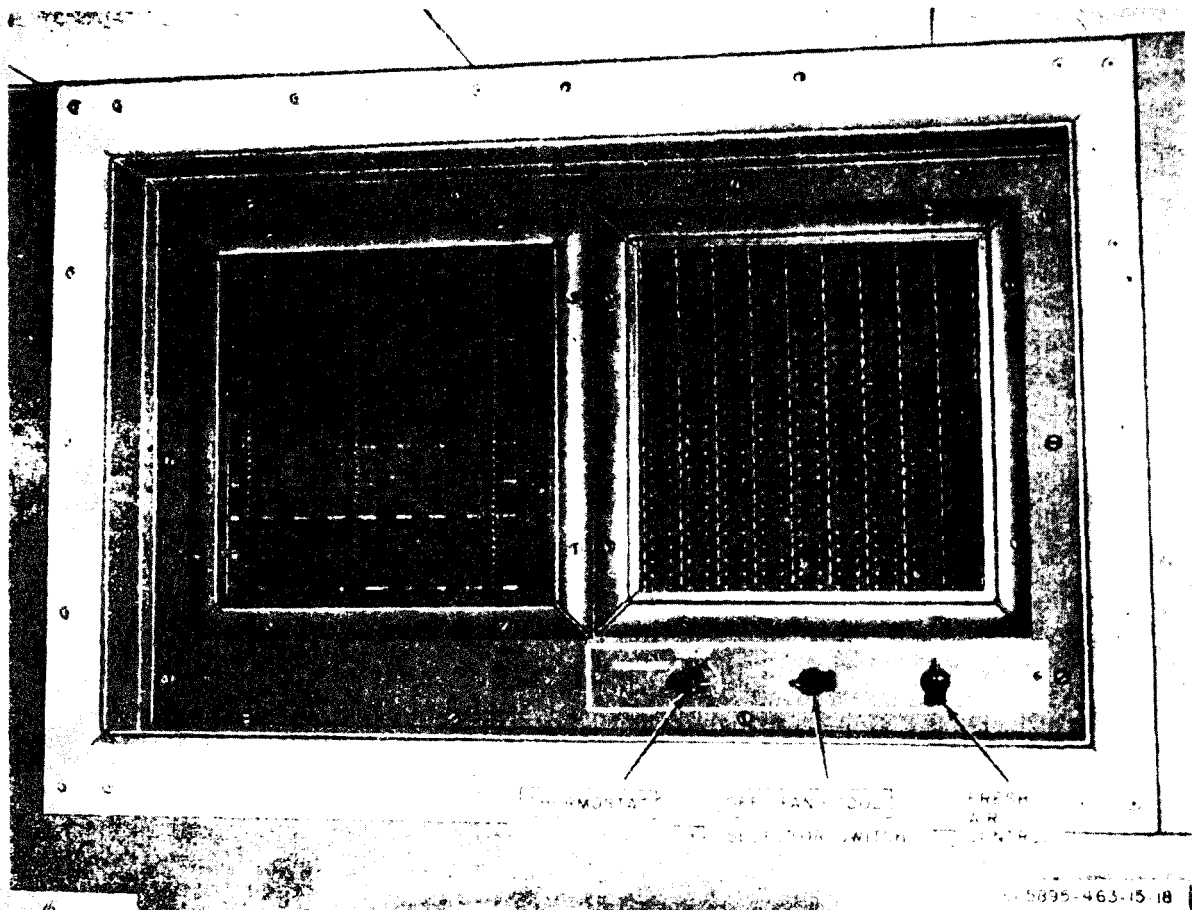

Figure 3-1. Air conditioner control panel.
f. Air Conditioner (fig. 3-1).
(3) *Air conditioner (fig. 3-1).*